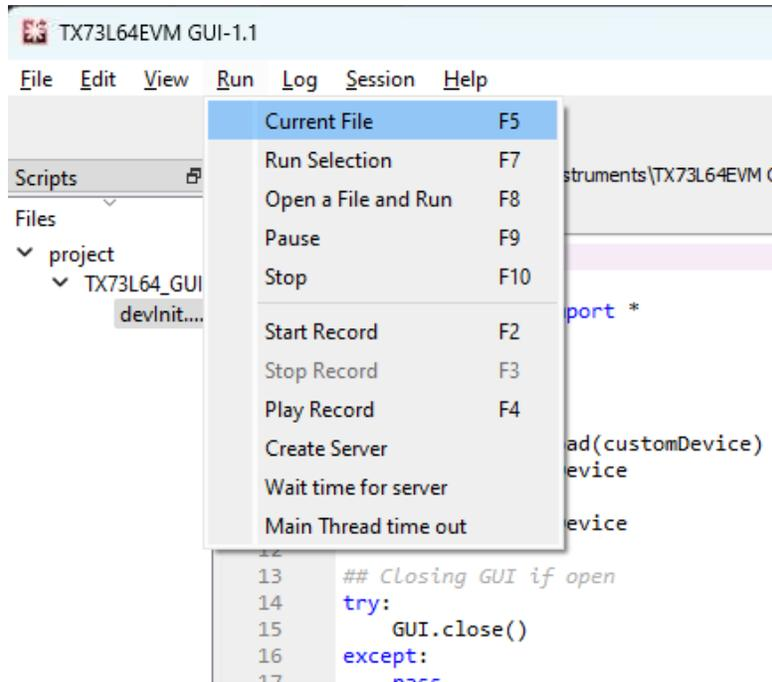
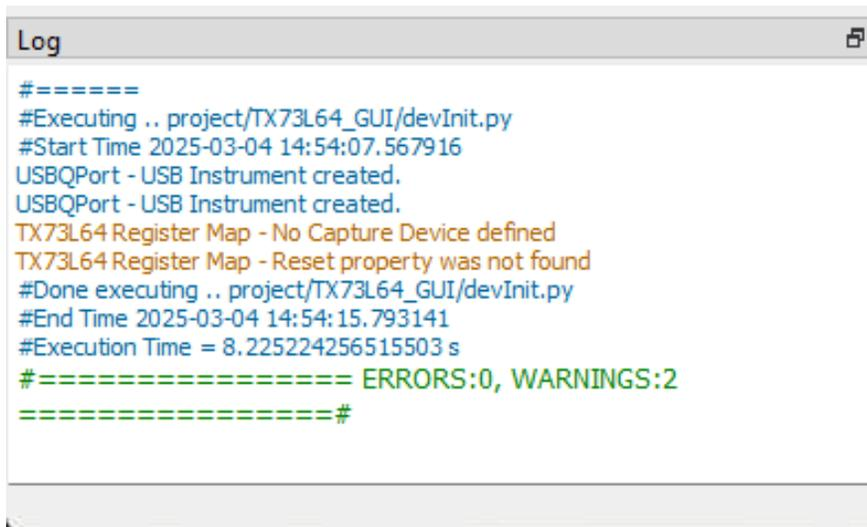

Figure 4-2. Latte GUI Window
Figure 4-3. Device initialization Logs
4. Click the run -> buffer option as shown in Figure 4-2. Interactive GUI opens as shown in Figure 4-4. Check the logs section of the GUI. It should be similar to Figure 4-3.